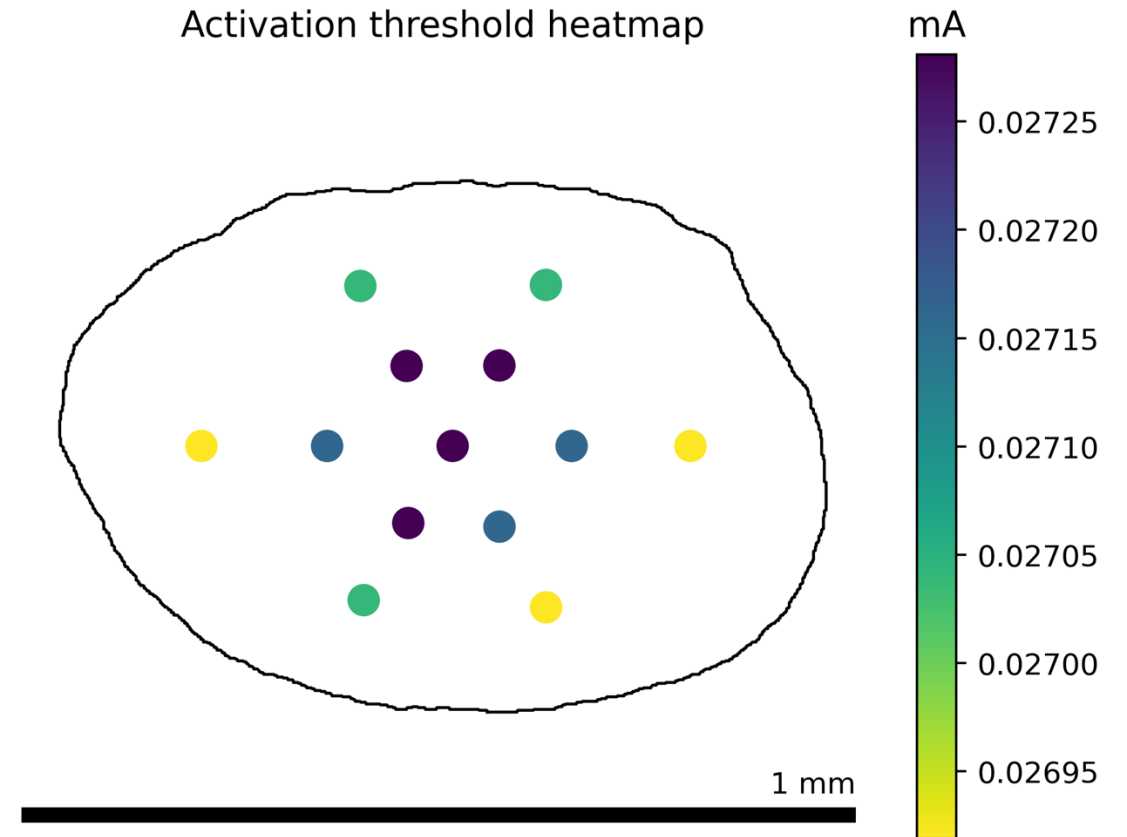

Figure 3: Activation threshold heatmap generated by following the tutorial
- During the tutorial, an activation threshold heatmap is generated, shown in Figure 3 (different from the tutorial website's image)